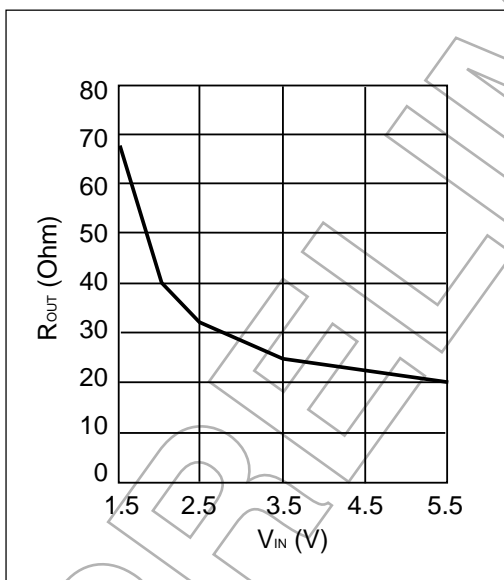

Figure 1. Output Resistance vs. Supply Voltage
**Figure 19. SP828/829 in its Typical Operating Circuit as a Negative Voltage Converter; this Circuit Was Used to Obtain the Typical Performance Characteristics Found in Figures 1 Through 18 (unless otherwise noted)**